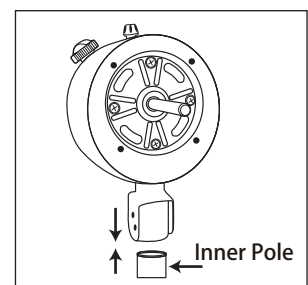

Figure 5
7. Attach motor to the inner pole, Follow the position of the hole slot. Figure 5